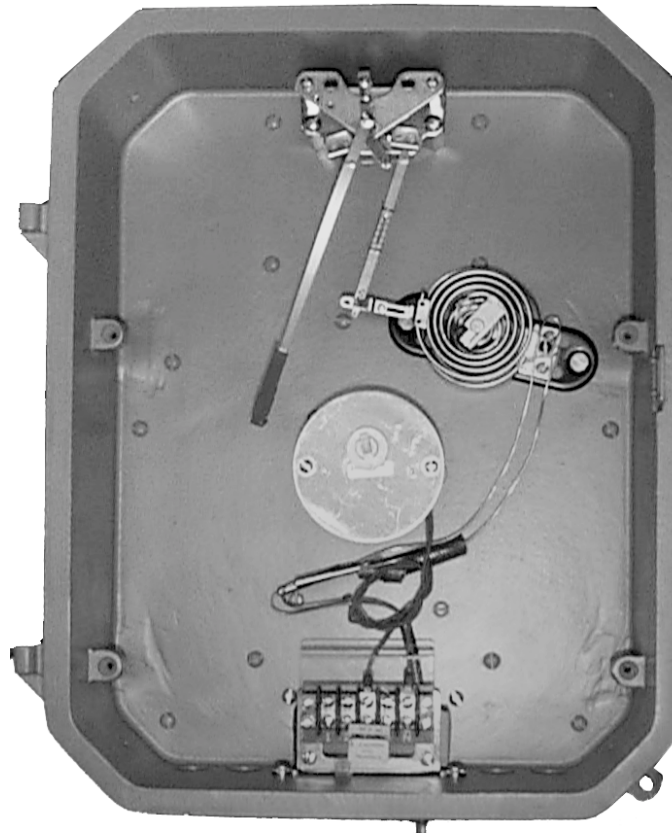

Figure 17. Removing System from Case
4. Remove screws and move terminal block to disconnect measuring element. If case fitting is part of measuring element, disconnect case fitting from access plate. Remove access plate to remove element. Refer to Figure 17.
3. Remove terminal block mounting screws and necessary wires to move terminal block for access to case opening. Refer to Figure 17.
6. Remove measuring element base screws Figure 17.